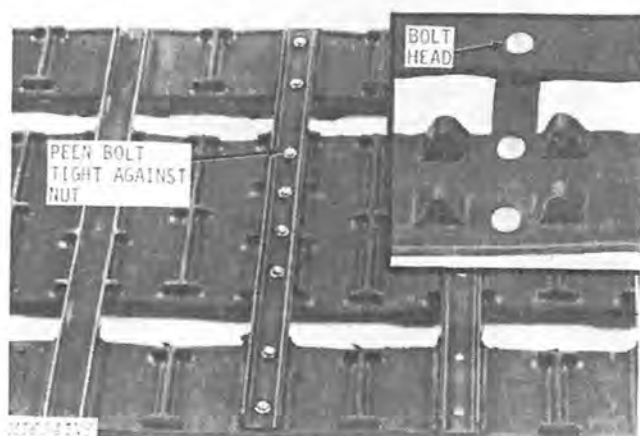

Fig. 19-Installing Grouser Bar (Bolt and Nut)
2. Use eight bolts and nuts (AM53418), Fig. 19, to secure grouser bar to track. Install bolt from the inside or drive lug side of the track, with nut to the outside. Tighten nut securely and then peen the bolt tight against the nut using two hammers; one for backing and the other for peening.